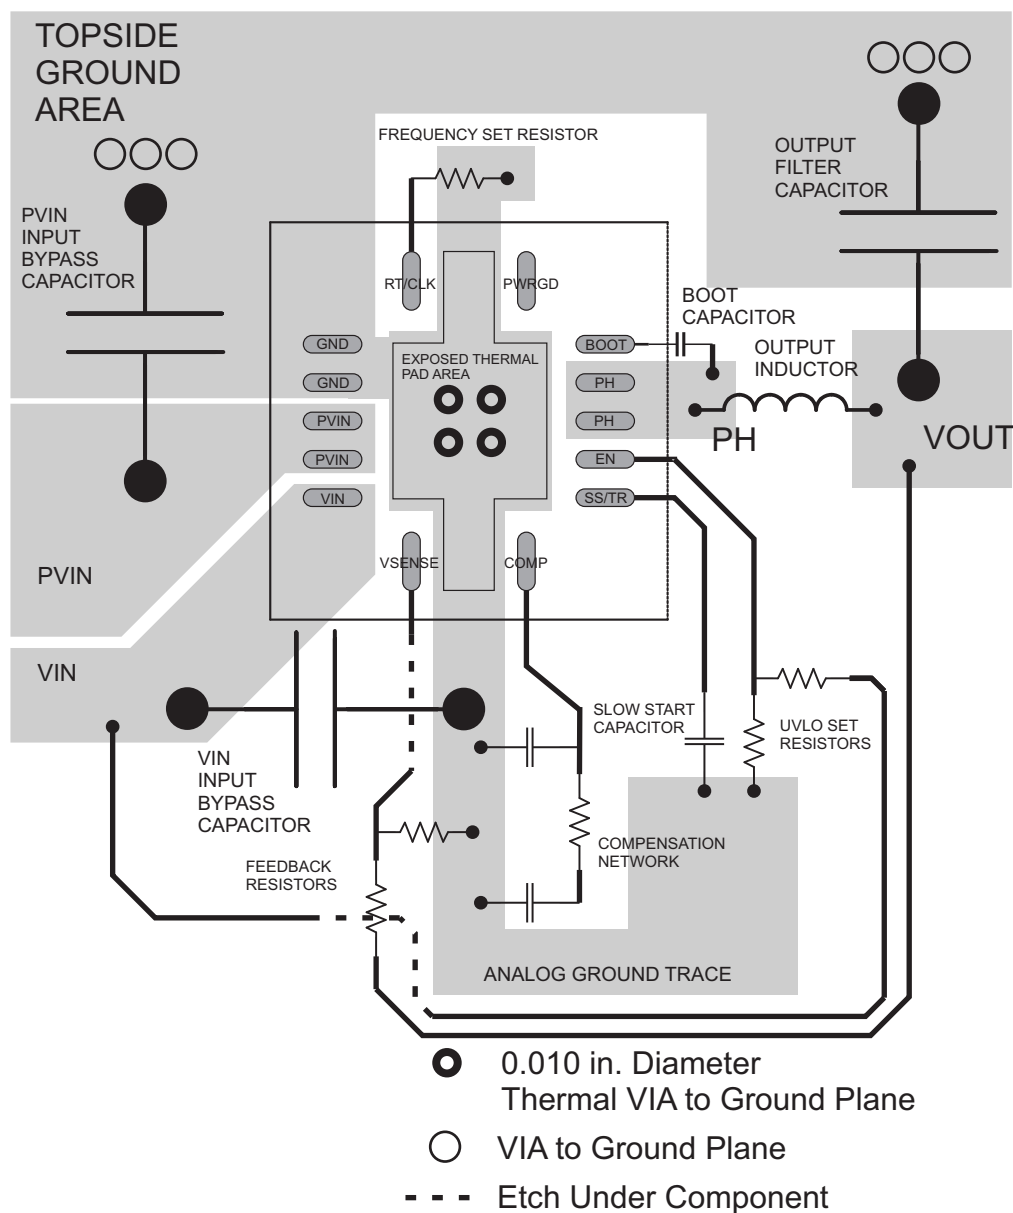

Figure 46. PCB Layout
The TPS54622 is designed to operate from an input voltage supply range from 4.5 V to 17 V. This supply voltage must be well regulated. Power supplies must be well bypassed for proper electrical performance. This includes a minimum of one 4.7- μ F (after derating) ceramic capacitor, type X5R or better from PVIN to GND, and from VIN to GND. Additional local ceramic bypass capacitance may be required in systems with small input ripple specifications, in addition to bulk capacitance if the TPS54622 device is located more than a few inches away from its input power supply. In systems with an auxiliary power rail available, the power stage input, PVIN, and the analog power input, VIN, may operate from separate input supplies. See Figure 46 for recommended bypass capacitor placement.
- Layout is a critical portion of good power supply design. See Figure 46 for a PCB layout example.